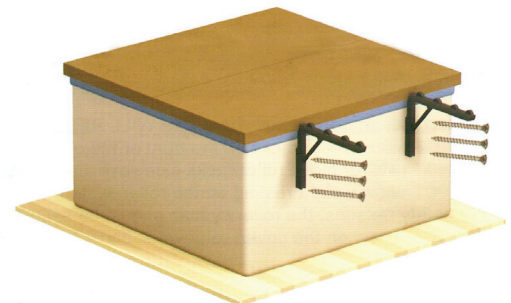

FIGURE 2
2. Attach each roller using (6) screws (Figure 2).